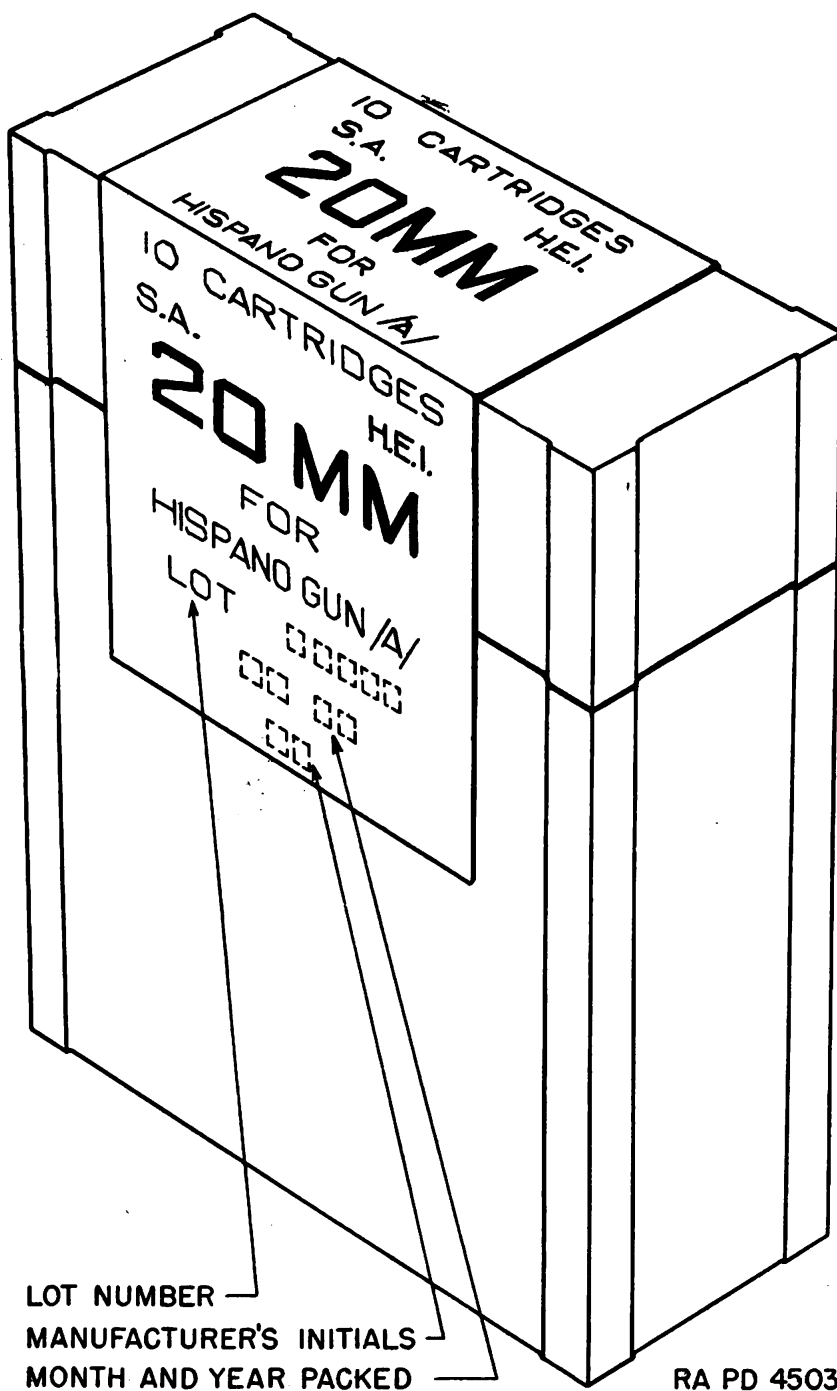
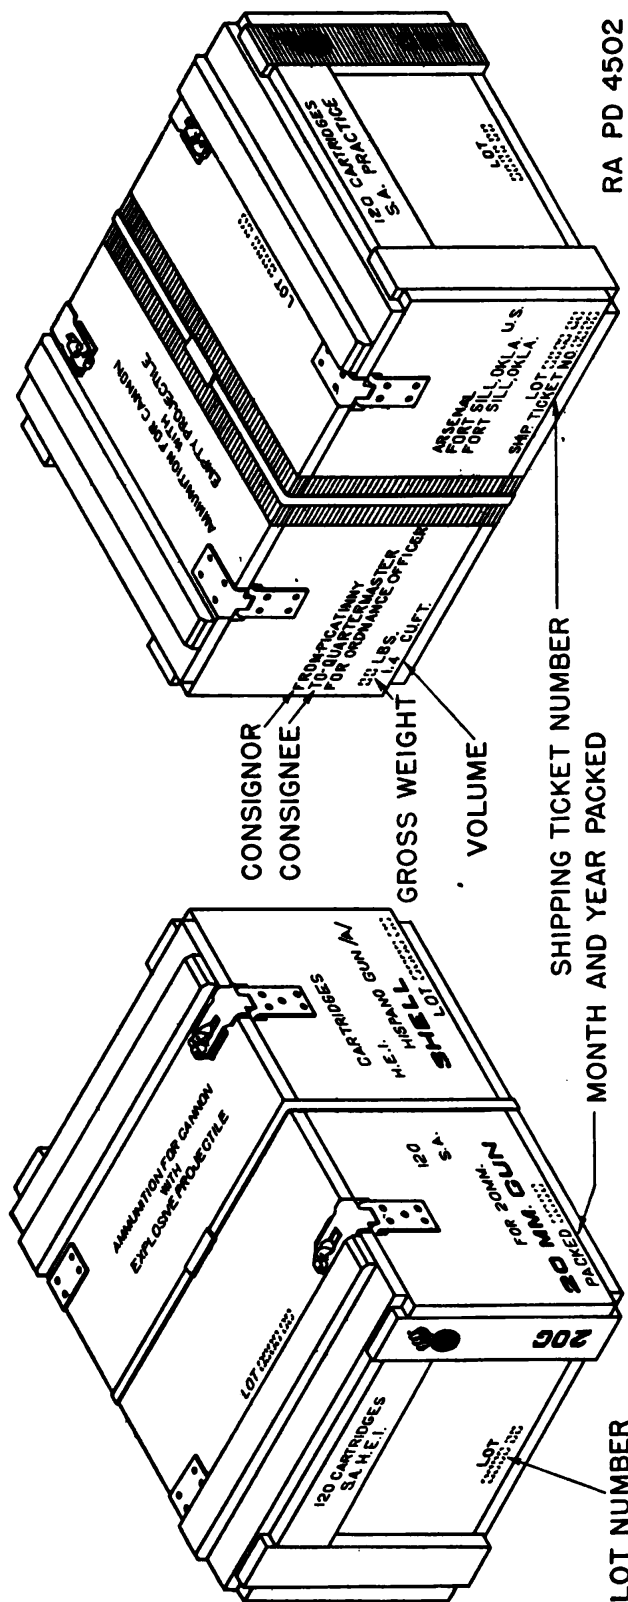

FIGURE 18.—Packing carton and marking for ammunition for 20-mm automatic guns M1 and M2.
FIGURE 19.—Packing box and marking for ammunition for 20-mm automatic guns M1 and M2.
25. Packing and marking.—*a. Packing.*—The ammunition for this gun is packed 10 rounds per fiber carton, figure 18, and 12 cartons (120 rounds) per sealed metal-lined packing box, figure 19. The following data are considered representative for estimating weight and volume requirements:
b. Marking.—(1) The marking on cartons and packing boxes is shown in figures 18 and 19.
(2) A blue band painted on packing boxes indicates that the box contains practice ammunition.